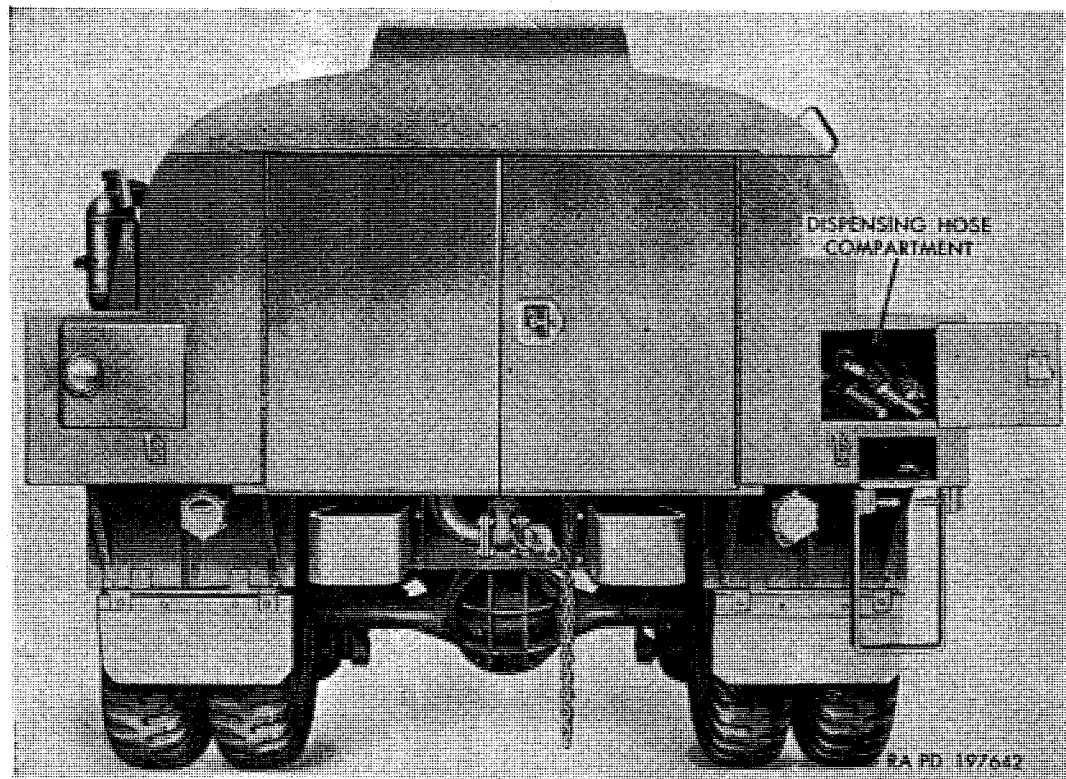

Figure 62. Gasoline tank body rear stowage compartments.
- c. *Gasoline Tank Operating Equipment.* Dispensing hose, nozzles, and gage stick are stowed in rear compartment (fig. 62).
Caution: When operating and driving the gasoline tank truck (fig. 62), the static chain at the rear must be in position at all times. During dispensing or loading gasoline, smoking near the truck (at least 50 feet) is forbidden. Use of open flame, electrically operated equipment, or tools which may cause static sparks must not be used on or near the truck. Dispensing equipment must be thoroughly drained and ventilated before stowage in rear compartment. All spillage in rear compartment and at manhole covers must be wiped thoroughly dry immediately after use. Personnel must not enter a compartment unless compartment is gas-free and precautions used as explained in paragraph 351.